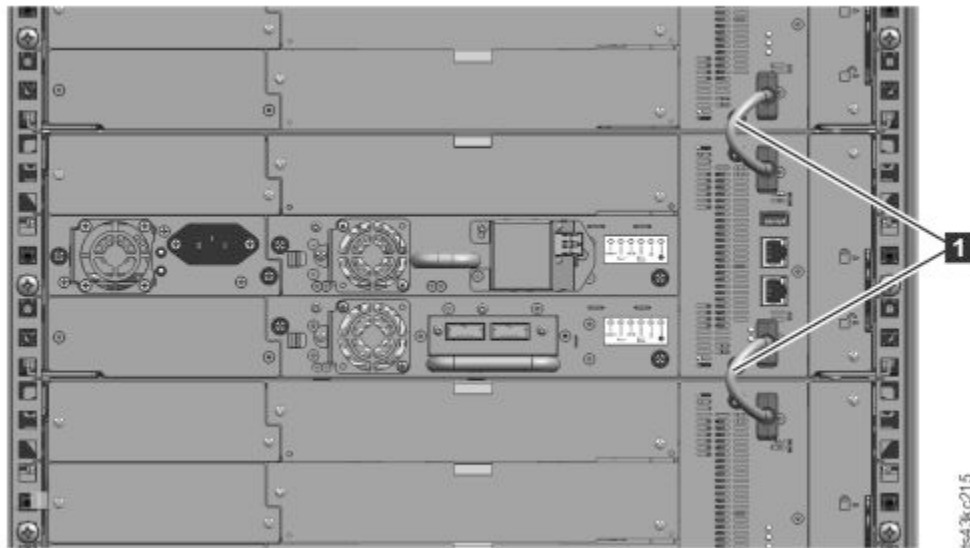

Figure 47. Connected modules
5. From the back of the library, connect the modules of each pair to its adjacent module by using the expansion interconnect cables (**1**) as shown in Figure 47 on page 52.